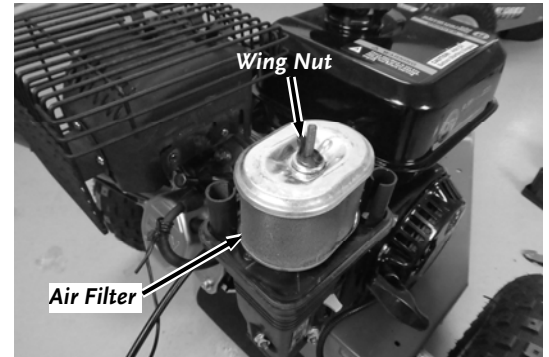

Figure 21
2. Remove the Filter by removing the Wing Nut and lifting the Filter up off the Filter Base (**Figure 21**).